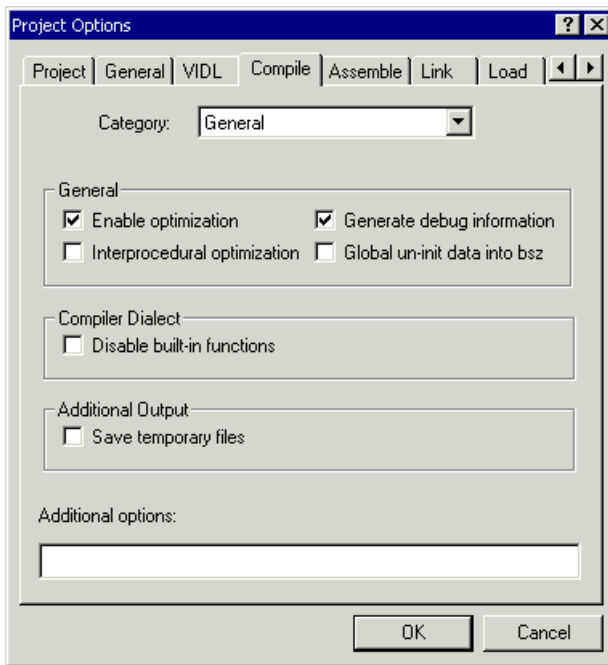

Figure 2-12. Project Options Dialog Box: Compile Page
7. Click the **Compile** tab to display the **Compile** page, shown in Figure 2-12 on page 2-19.